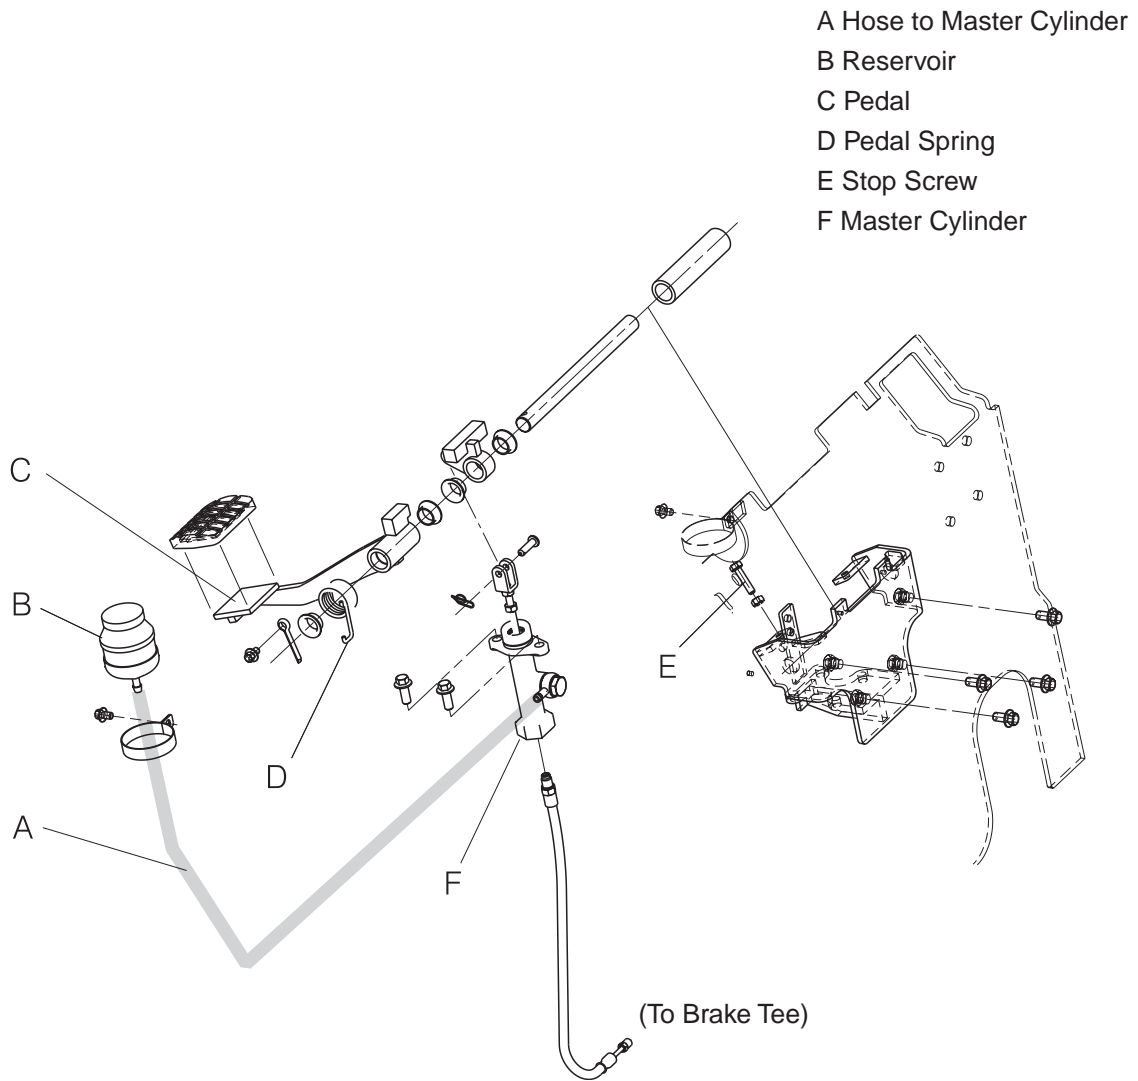

Figure 2. Reservoir, Pedal, Linkage, and Master Cylinder Assembly.(EPX Truck)
See Figure 2. The brake pedal must be at the same height as the inching pedal. To adjust brake pedal height :
1. Loosen the jam nut on the rod brake master cylinder (Figure 2).